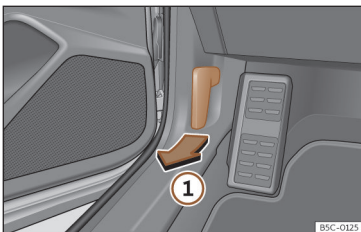

Fig. 173 Release lever in the driver's footwell area.
- Open the door and pull the lever that is underneath the instrument panel >>> **Fig. 173** ①.